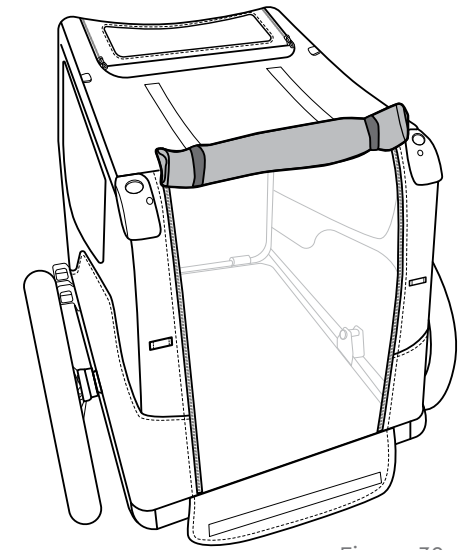

Figure 32
4. The rear door mesh window can be rolled and secured by inserting the hanging hooks in the reflective loops at location ③ (Figure 32).